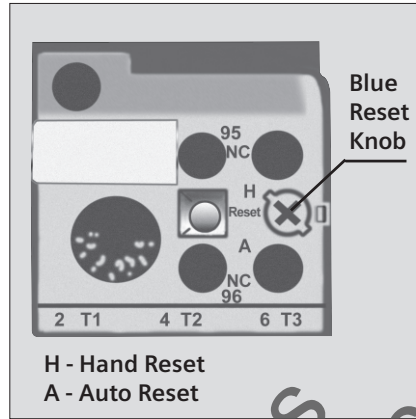

Fig. 5 : Relay Front View
- In case you want the starter to be in 'Self-Reset' mode, the blue knob on the relay is to be pressed and rotated in the anti-clockwise direction, so that it comes in position 'A', and its edge is flush with the surface. In this mode even if the relay trips on overload, it will be automatically reset in a maximum of 4 minutes. The motor can be restarted only after the relay is reset (Fig. 5).